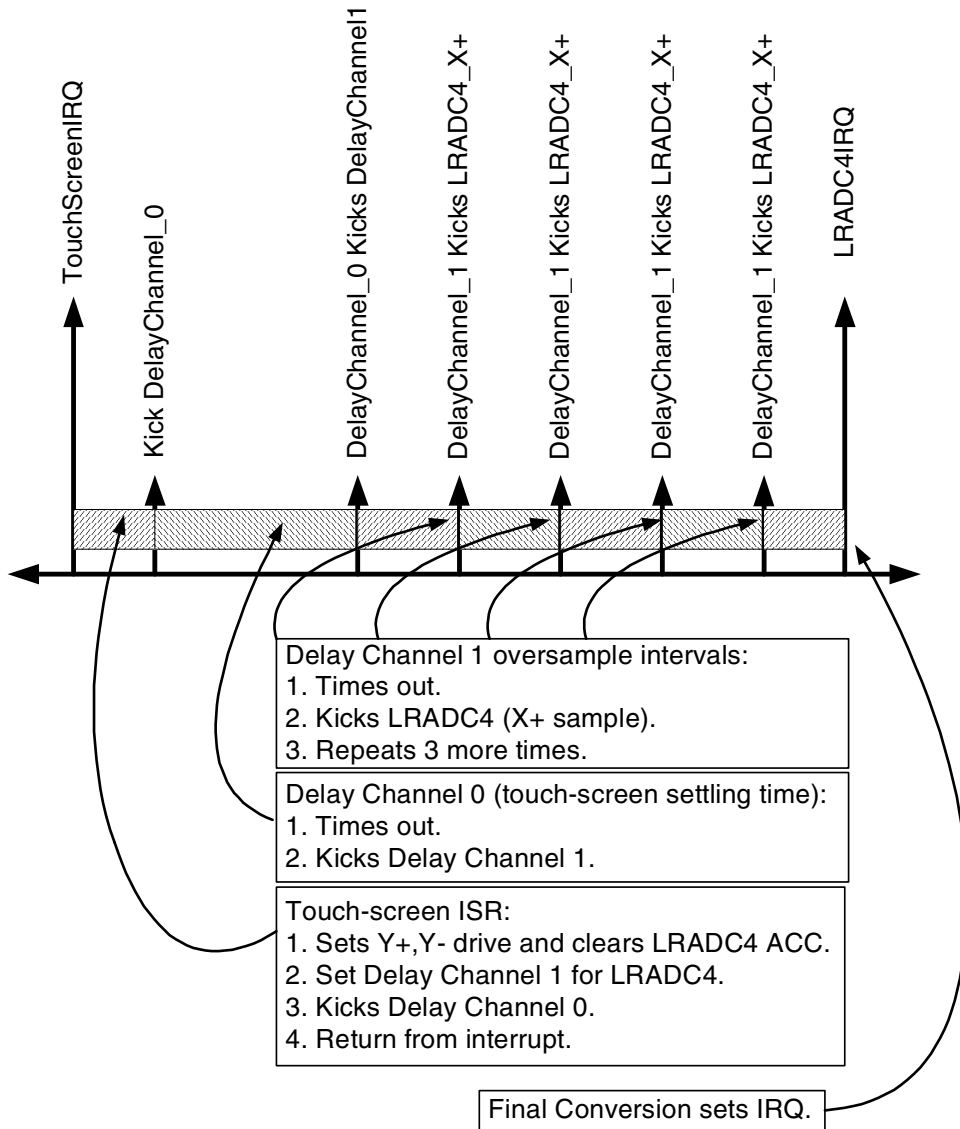

Figure 33-3. Using Delay Channels to Oversample a Touch-Screen
- Delay Channel 0 is set to delay 1 ms with LOOP_COUNT = 0, i.e., one time. Its TRIGGER_DELAYS field is set to trigger Delay Channel 1 when it times out. The ISR routine kicks off Delay Channel 0 immediately before it does its return from interrupt. Another interrupt (LRADC4_IRQ) is asserted once the entire 4x oversample data capture is complete. A sample timeline for such a sequence is shown in Figure 33-3.